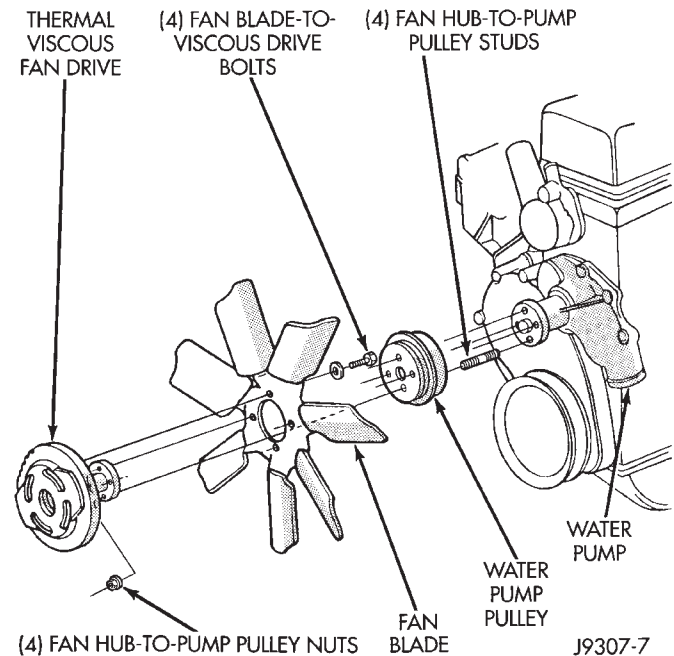

Fig. 48 Fan Mounting Nuts
(1) Remove the four fan hub-to-water pump pulley mounting nuts (Fig. 48). Carefully remove the fan assembly from the water pump pulley and position to center of fan shroud. Fan belt removal is not neces-